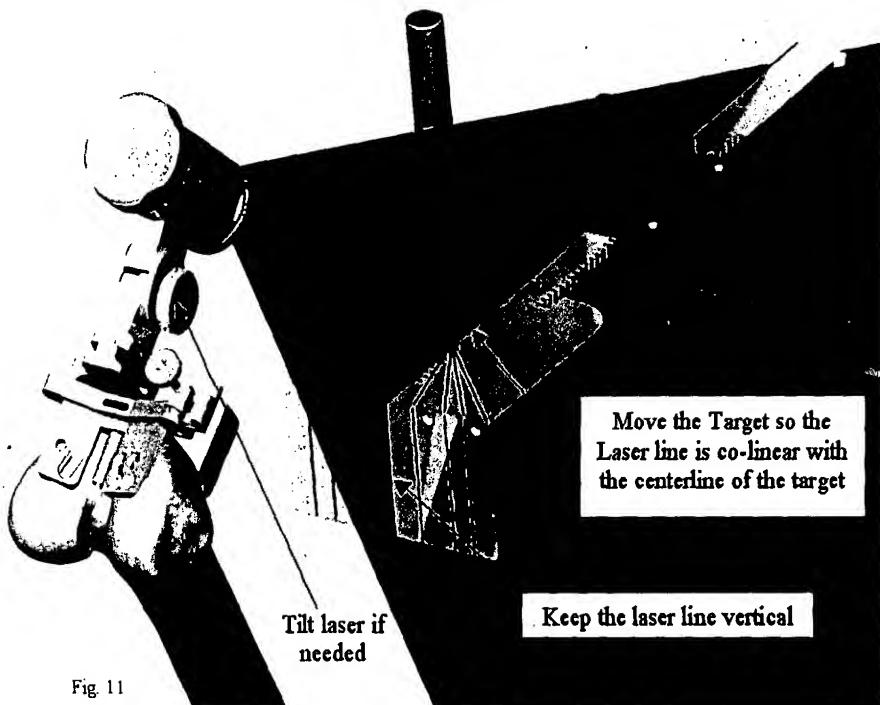

Fig. 11
- b. Now make the **Knee Laser beam co-linear with the Target centerline by moving the target transversely** (Figure 11). There is only one position the Bulls-eye will line up with the medial and lateral radial lines for this patient, which is the exact center of the femoral head.. (Fig. 17)